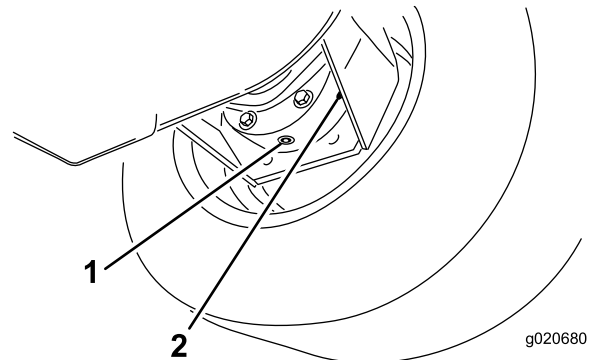

Figure 90
3. Place a drain pan under the brake housing, remove the drain plug and allow the oil to drain (Figure 90).